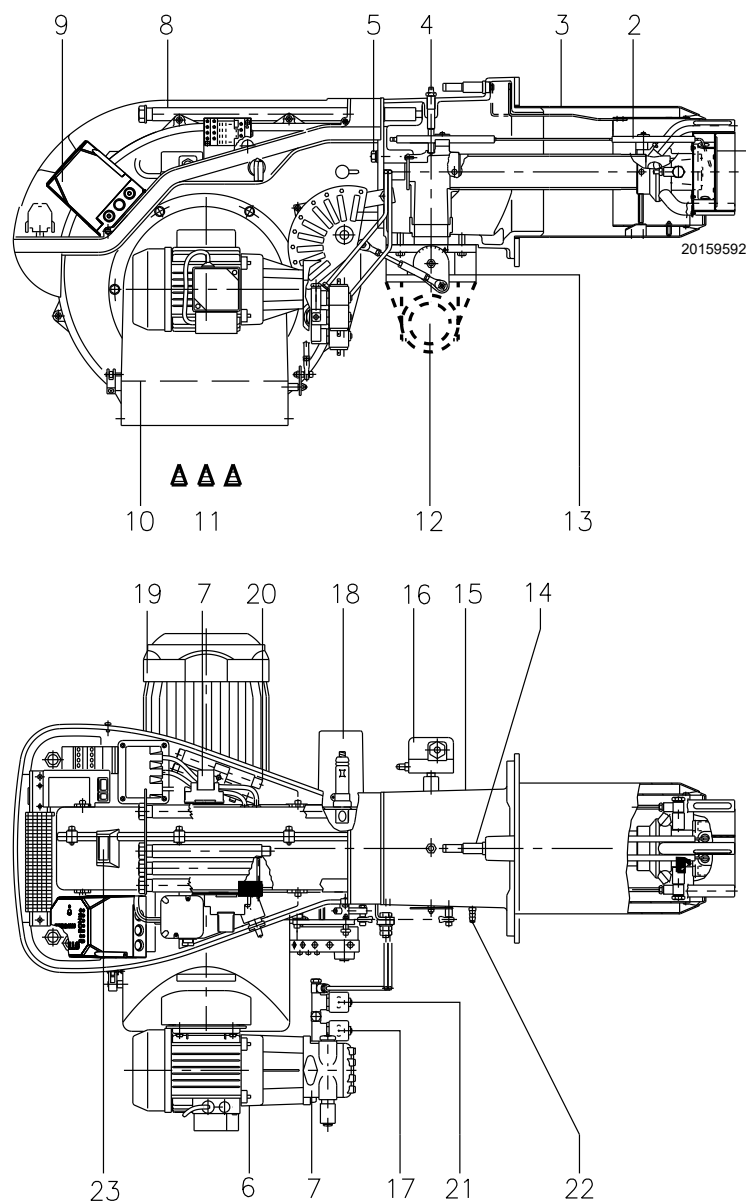

Fig. 5
- (1) Reference conditions: Ambient temperature 20°C - Gas temperature 15°C - Barometric pressure 1013 mbar - Altitude 0 m a.s.l.
(2) Pressure at test point 4)(Fig. 5, on page 11) with zero pressure in combustion chamber and at maximum burner output.
(3) Sound pressure measured in manufacturer's combustion laboratory, with burner operating on test boiler and at maximum output.